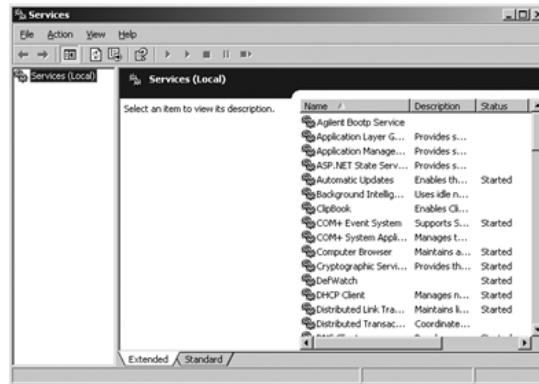

Figure 22 Windows Services screen
- 1 In the Windows control panel, select **Administrative Tools > Services**. The **Services** screen appears, see Figure 22 on page 74.